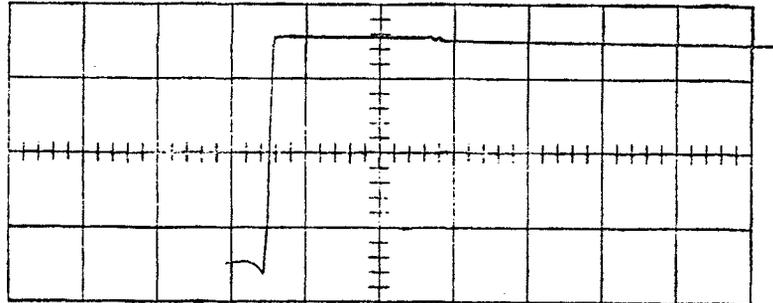
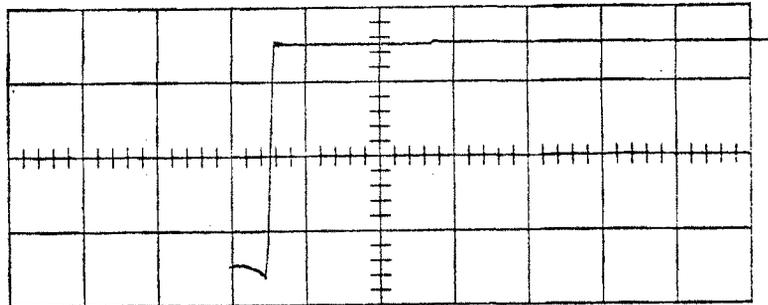

Fig. 5. Illustrating a "rising" general "level" of early part of waveform. A "falling" level is also possible. These conditions require detailed readjustment.
Fig. 6. Here a section of the display is noticeably lower than the rest of the display. This condition requires detailed readjustment.
3. Does the general "level" of the early part of the top of the waveform (say the first 2 or 2½ centimeters) rise or fall noticeably (Fig. 5)? Now turn the MULTIPLIER control to 5. Is a section of the display noticeably lower than the rest of the display (Fig. 6)? If either of these faults exists, proceed directly to the part of this publication headed "Detailed adjustment of the vertical amplifier and delay line."